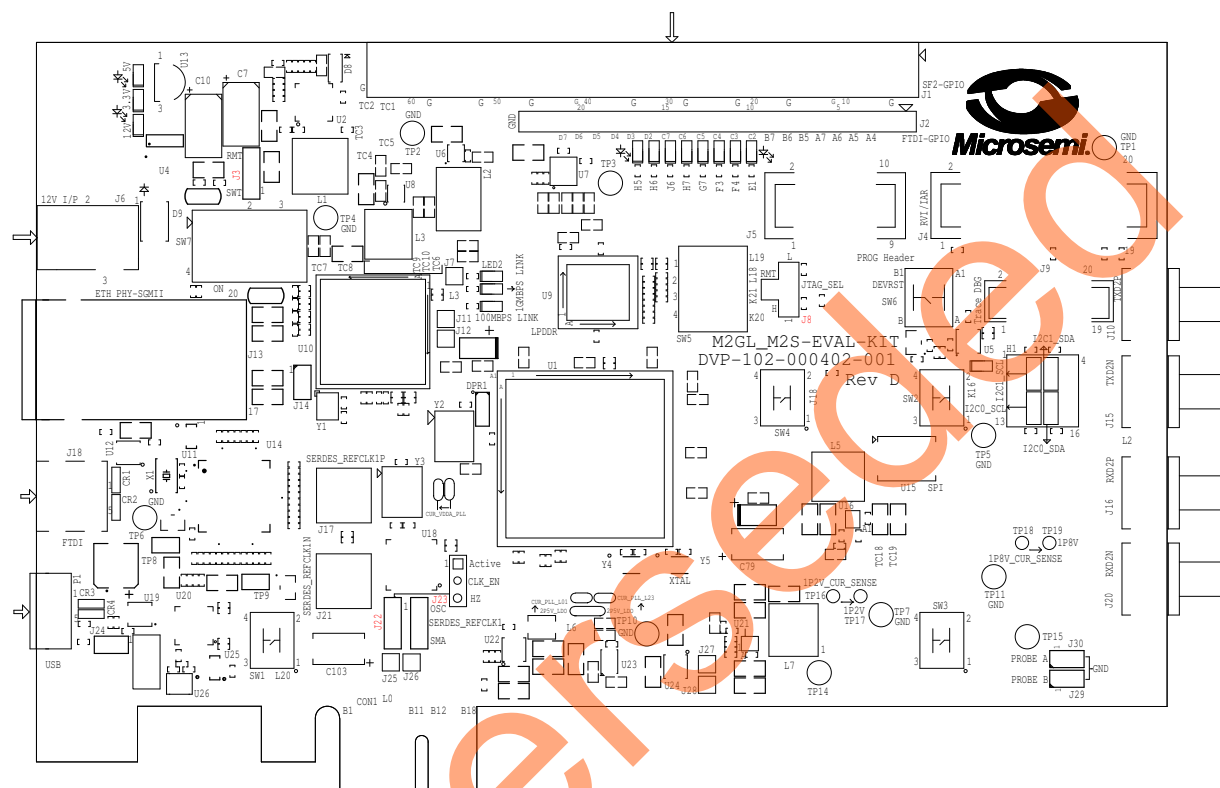

Figure 2 • SmartFusion2 Security Evaluation Kit Board Jumper Locations
Figure 2 shows the jumper locations on the SmartFusion2 Security Evaluation Kit board.
- The locations of the jumpers in Figure 2 are searchable.